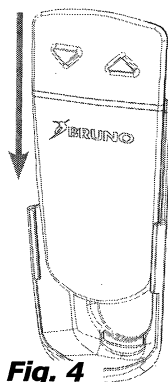

Fig. 4
- Slide transmitter into bracket (Fig. 4).